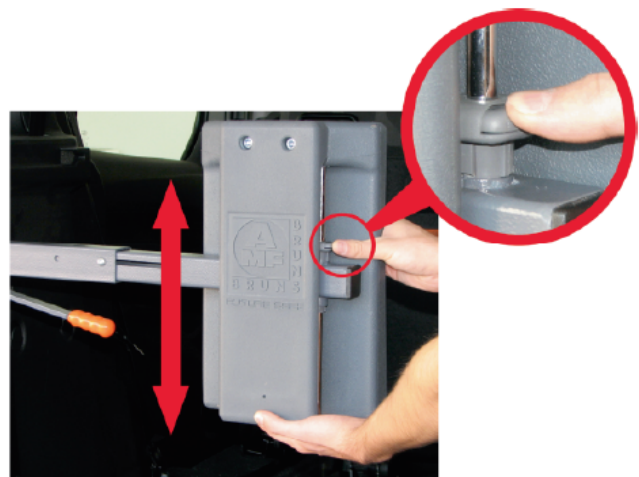

Figure 6: Adjusting the Height
Wheelchair passenger gets maximum safety by adjusting head-and-backrest to the correct height (see Figure 6 above).
- Press and hold the latch button on the head or backrest (see Figure 6).